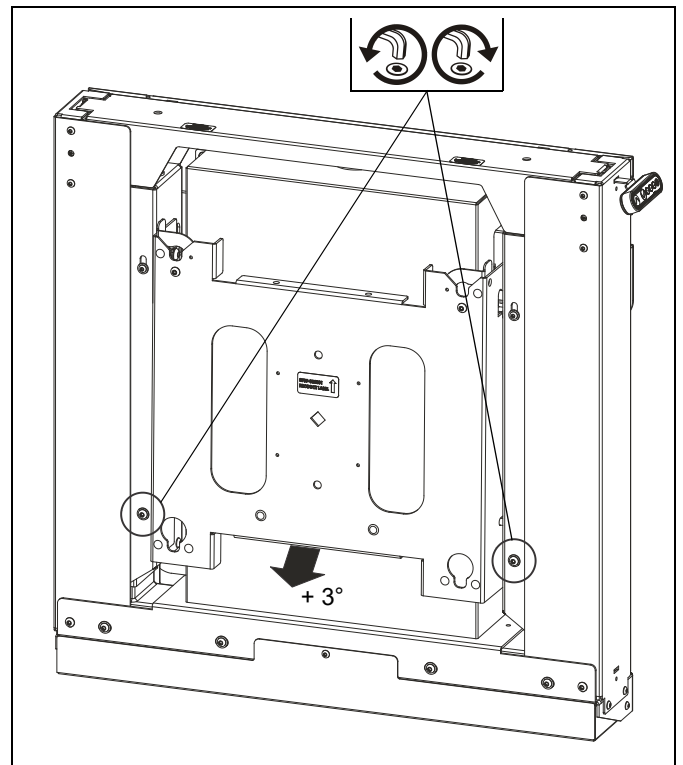

Figure 40
2. Adjust plumb adjustment screws as desired to adjust plumb + 3°. (See Figure 40)